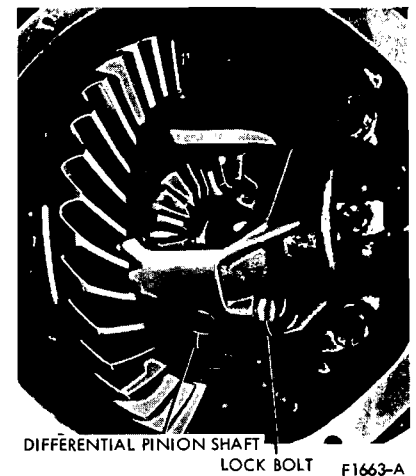

FIG. 5 Differential Pinion Shaft and Lock Bolt
7. Working through the differential case opening, remove the pinion shaft lock bolt and the pinion shaft (Fig. 5).